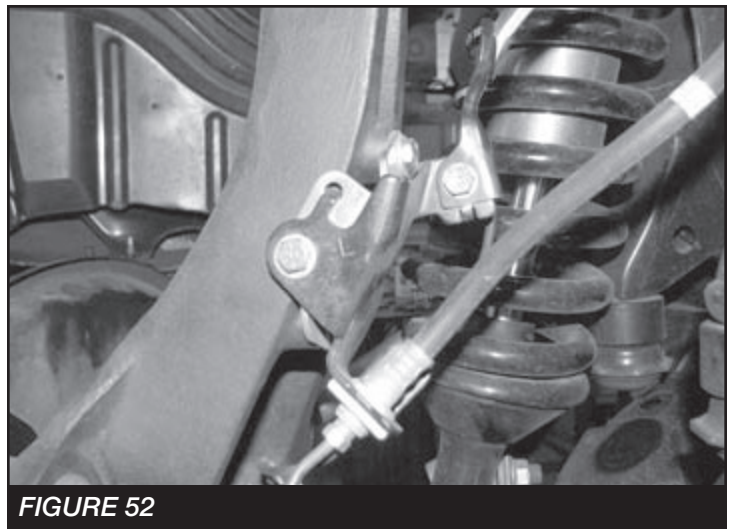

**FIGURE 50**
28. Reinstall the lower sway bar link to the lower control arm. Torque to 100 ft – lbs. **SEE FIGURE 50**